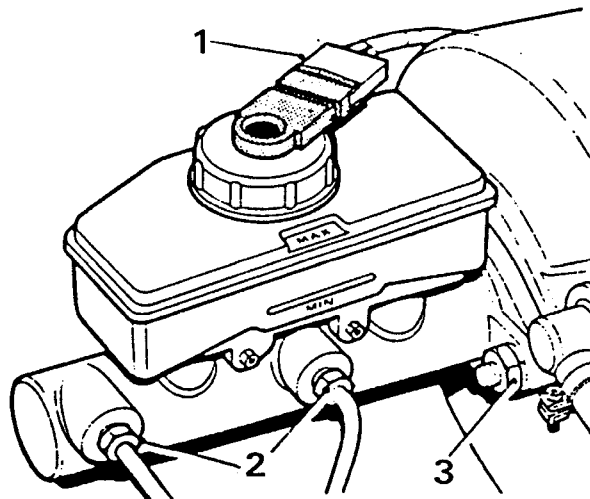

Figure 15B.1
5. Withdraw the primary piston and spring complete with seals, see figure 15B.2.
6. Use a soft metal rod and press down the secondary piston whilst using a pair of pliers to extract the piston stop pin from the recess in the cylinder body, see figure 15B.2. The secondary piston and spring assembly can now be extracted with thin nosed pliers or by tapping the cylinder on a soft or wooden surface.